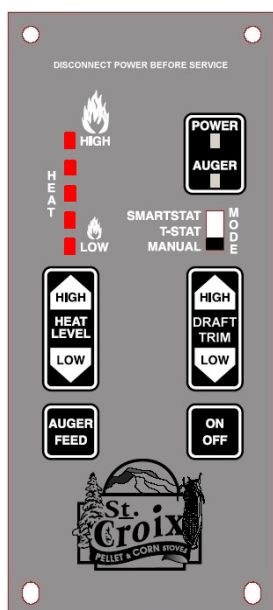

Figure 26
- 1 - **Program 1.** The Cycle Time is 7.5 seconds. This program will be the default program when the Stove is first plugged in. **This program is for use with Pellets & Cherry Pits.** (See figure 26 on page 39)
- 2 - **Program 2.** The Cycle Time is 8.5 seconds. **This program is for use with Pellets, Corn, Wheat, Rye, Cherry Pits & Distillers Grain Pellets.** (See figure 26 on page 39)
- 3 - **Program 3.** The Cycle Time is 9.5 seconds. **This program is for use with Pellets, Corn, Wheat, Rye, Cherry Pits & Distillers Grain Pellets.** (See figure 26 on page 39)
- 4 - **Program 4.** The Cycle Time is 10.5 seconds. **This program is for use with Pellets, Corn, Wheat, Rye, Cherry Pits & Distillers Grain Pellets.** (See figure 26 on page 39)
To change the program the Stove must be in the **OFF** position, the Stove must be **cooled down so the Proof of Fire switch is open** and the Thermostat slide switch must be in the **Manual mode**. (See figure 26)